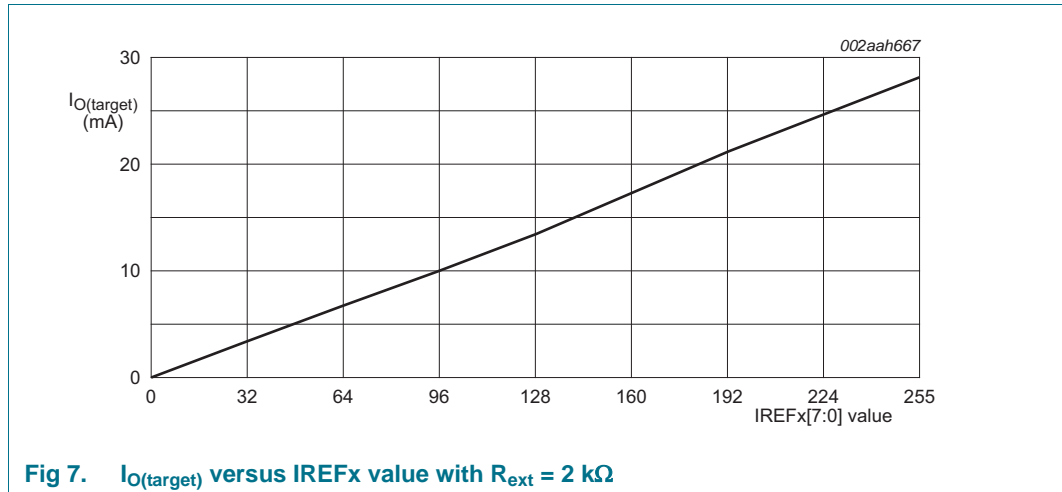

Fig 7. IO(target) versus IREFx value with Rext = 2 kΩ
**Example 2:** If  $R_{ext} = 2\text{ k}\Omega$ ,  $I_{O\_LED\_MIN} = 112.5\ \mu\text{A}$ ,  $I_{O\_LED\_MAX} = 28.687\ \text{mA}$  (as shown in Figure 7).